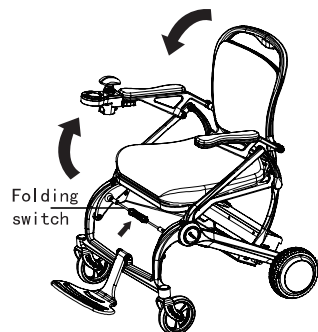

fig. 6
5.3.1 When the wheelchair needs to be folded, then the wheelchair can be folded (fig6)